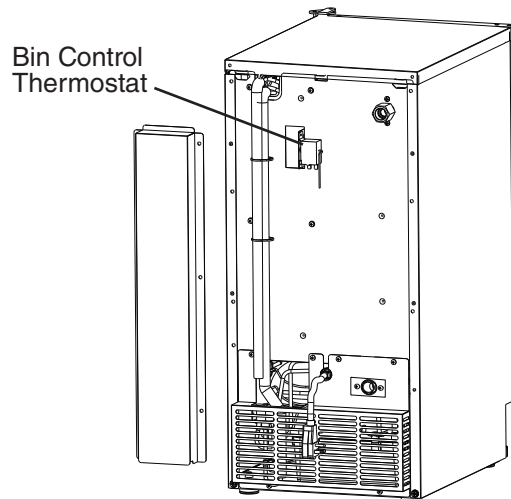

Fig. 33
- 10) To confirm bin control operation, hold ice in contact with the bin control thermostat bulb. **NOTICE! If the icemaker does not stop within 10 seconds, the bin control thermostat must be adjusted. Installation at higher altitude locations are more likely to require adjustment.** See Fig. 33.